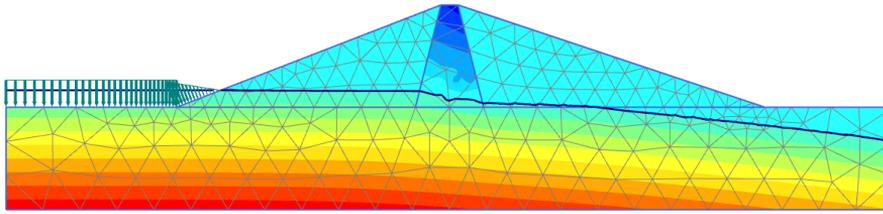

Figure 8.17 Pore pressure distribution, (p_{active}), for low reservoir level
- The steady-state situation with a low reservoir level (Figure 8.17).